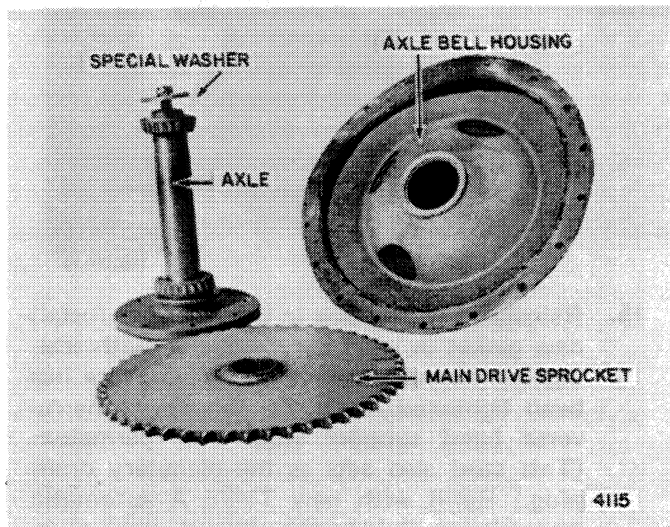

FIGURE 19
7. Figure 19 shows the axle housing assembly disassembled. Remove the castellated nut and special washer from the axle. Tap the axle out of the sprocket, then tap the axle out of the axle housing.